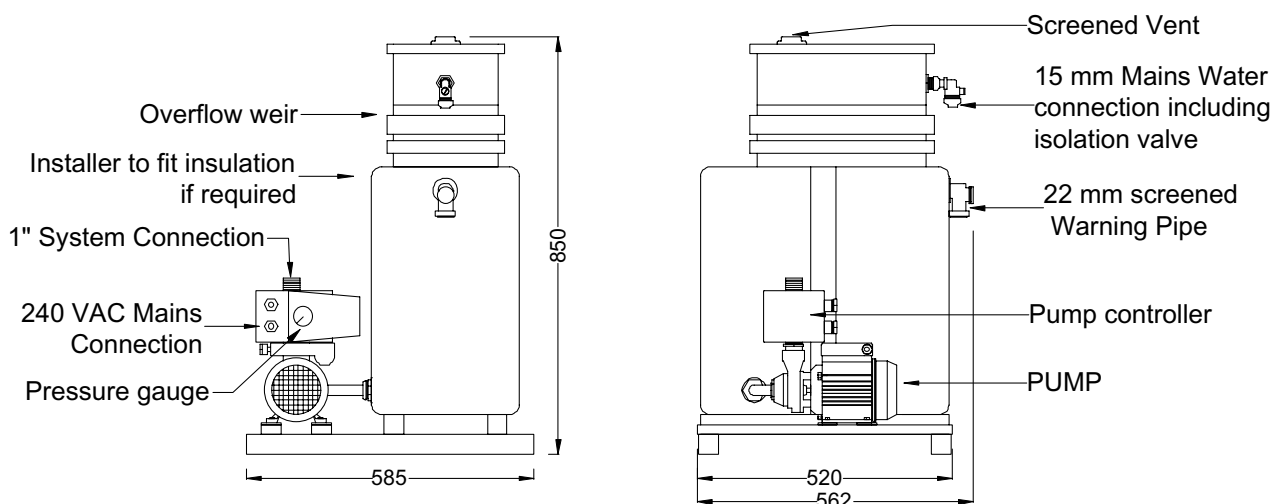

Fig 2.1
- 1.3.3.6 Mains water supply: Connect to 15mm inlet valve in tank. Ensure minimum of 1 Bar pressure. Fill the tank. Ensure flow rate into tank equals or exceeds flow rate out of tank/pump. See Fig 2.1